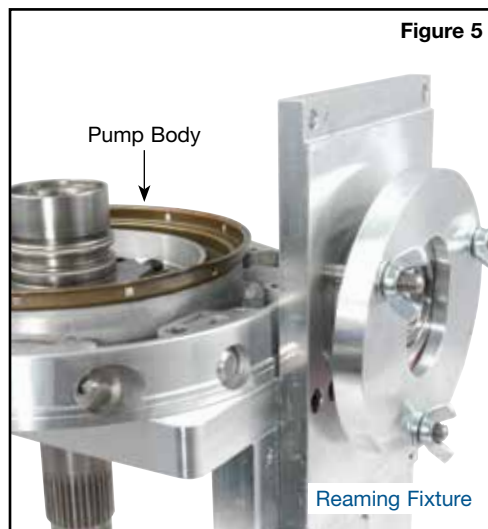

Figure 5
- b. Put valve/pump body on base of reaming fixture, open circuits facing up whenever possible (**Figure 5 & 6**). Due to valve/pump body variations, it may be necessary to clamp with the circuits down. In this case, position the bore to be reamed over the cutout in the plate in order to provide a source of lubrication and removal of chips. Once the valve/pump body has been secured following steps 1-6, the complete fixture can then be removed from the vise and rotated 180° for better access to the circuits through the cutout in the plate.